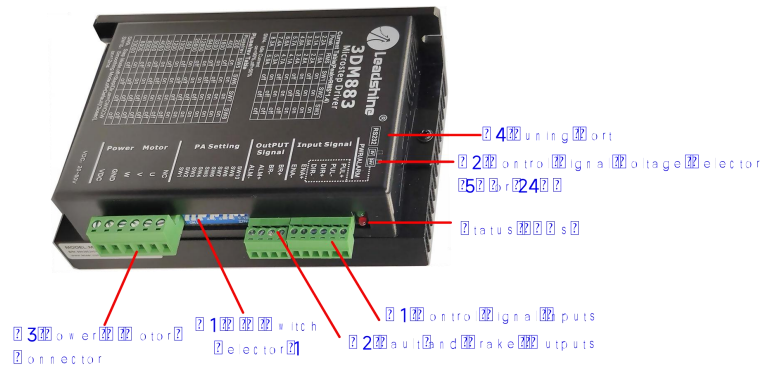

Figure 2 Connectors, DIP switches, and LED locations
DIR- (CCW-)	(4) Single pulse (step & direction) or double pulse (CW/CCW) is set by DIP Switch SW9 (5) DIR signal requires advance PUL signal minimum 5 μ s in single pulse mode (6) The factory setting of control signal voltage is 24V, must need to set S2 (figure 2) if it is 5V
- (1) ENA signal is no-connected as default;
- (2) Control signal amplitude is 24 V as default. If it is 12 V, please set the S2 (Figure 2) selector switch to 5 V first, then connect 1K Ω resistor; If it is 5V, please set the S2 to 5V.
The second 1-bit selector is located on the top (S2 in figure 2), used to configure the voltage of control signals. For the safety of optically coupled, the factory setting is 24V, which no need to connect 2K resistors like the old drives, making it easier to use. When the voltage of the control signal is 5V, the S2 must be set to 5V, otherwise, the motor won't work.